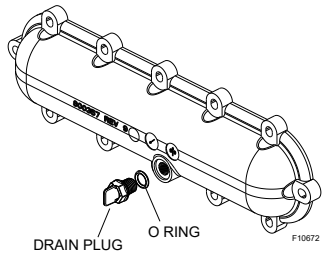
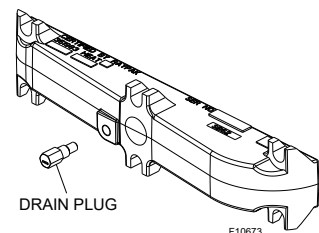

Figure 72. Return Header Drain Plug - Residential ("P" Prefix Model)
Figure 73. Return Header Drain Valve - Commercial ("B" Prefix Model)
- 2. Remove the ProTek Shield™ Assembly (if attached). Remove the heat exchanger inspection panel on the side opposite water piping to gain access to the drain plug on the return header. Open drain plug on return header. See **Figure 72** and **Figure 73**.